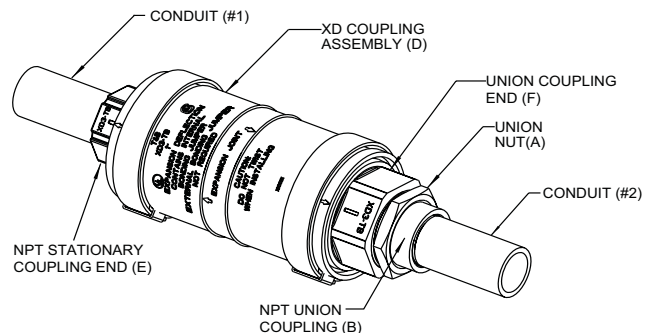

Figure 2
1. Wrench-tight Union Nut (A). See Fig. 2.
2. Thread NPT Stationary Coupling End (E) onto conduit (#1). Finish tightening with a pipe wrench (wrench-tight). DO NOT use Union Coupling End (F), this could damage grounding strip.
3. With Union Nut (A) wrench-tight, complete assembly by holding Union Coupling End (F) firmly and thread conduit (#2) into NPT Union Coupling (B). Finish tightening with a pipe wrench (wrench-tight) see Fig. 2.